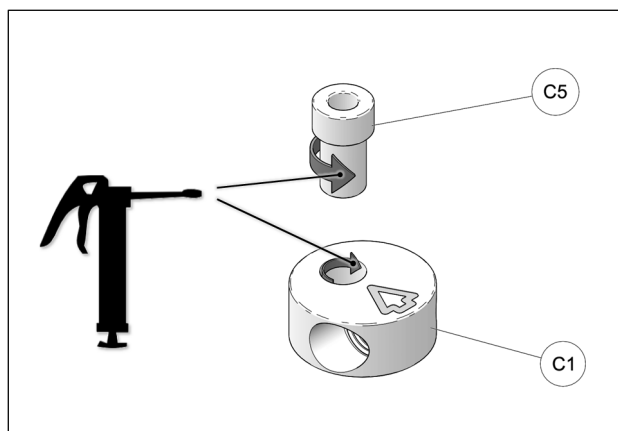

Fig. 24
11. Apply grease evenly all around step spacer bushing (C5) and in hole of aluminum disk (C1) when assembling these parts together. See Fig. 24